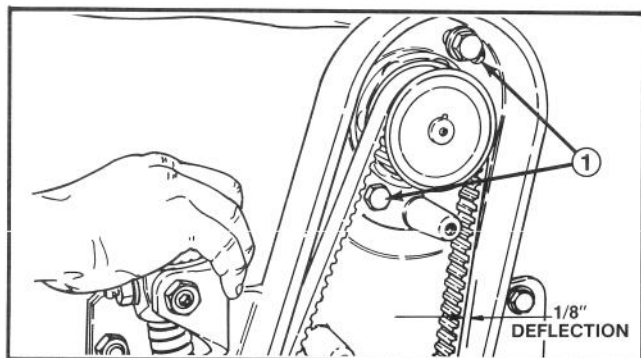

Figure 14
Insert the two (2) reel drive motor mounting bolts (heads on inside of the drive housing — flatwasher on top bolt) through the reel motor flange holes. Thread the locknuts onto the bolts. Rotate reel motor upward in the slotted hole in the housing to tension the drive belt and tighten the fasteners (Fig. 14) to approx. 25 ft. lbs. (34 N·m). **Note:** Proper belt tension is achieved when belt deflects approximately 1/8" (3 mm) at mid-point (Fig. 14).